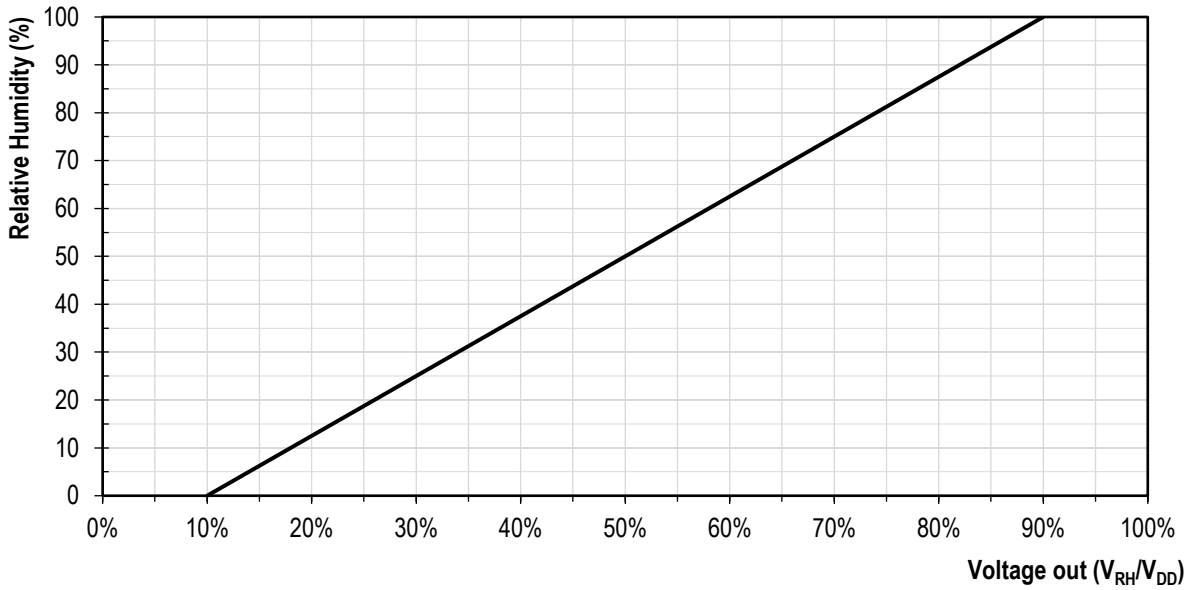
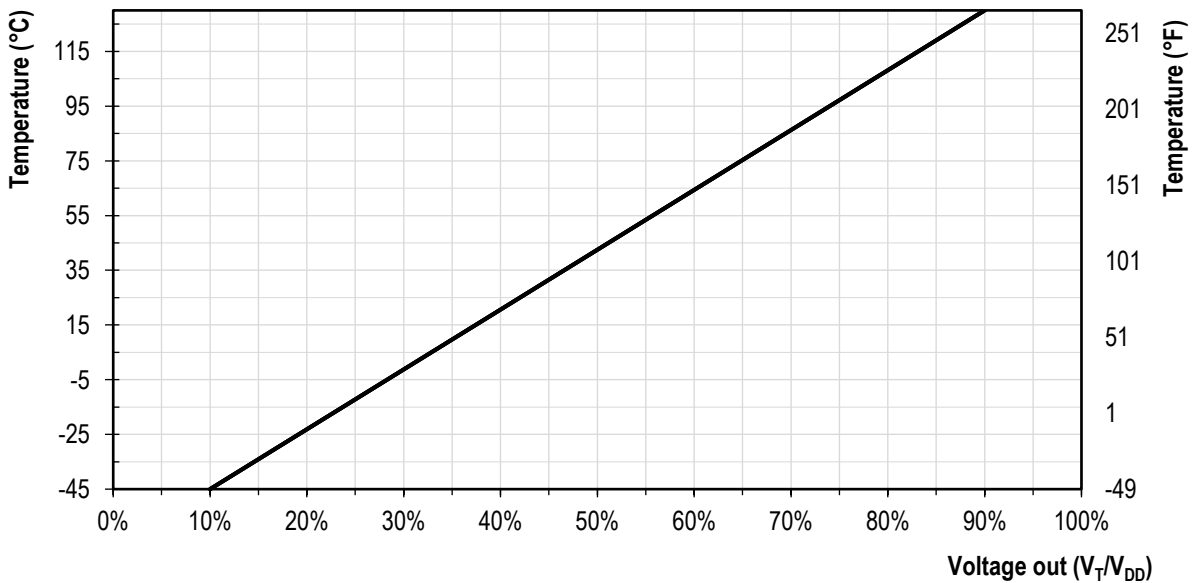

Figure 9 Relationship between the ratiometric analog voltage output and the measured relative humidity.
Figure 10 Relationship between the ratiometric analog voltage output and the measured temperature
This allows to describe the relationship between physical values (RH and T) and the voltage output for temperature and humidity (V_T , V_{RH}) through a generic linear formula given by equations (1), (2) and (3); its graphical representation can be found in Figure 9 & Figure 10.